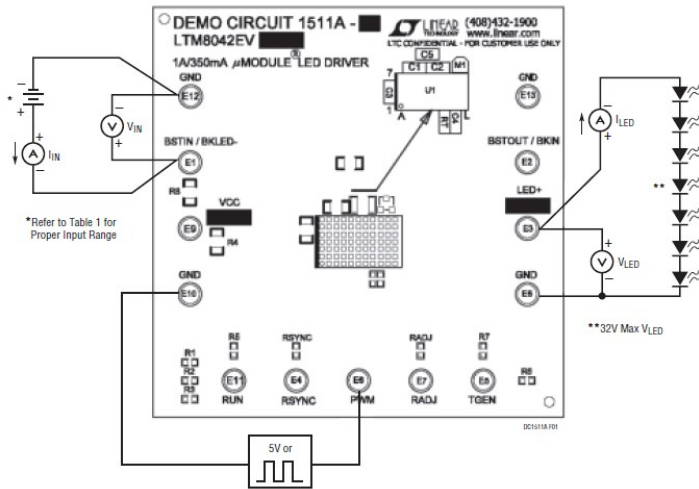

Figure 1. Proper Measurement Equipment Set-Up (Boost Topology)
Demonstration circuit 1511A is easy to set up to evaluate the performance of the LTM8042EV/LTM8042EV-1. Refer to Figure 1 for the proper measurement equipment set-up and follow the procedure below for a boost (step-up) topology.
1. Connect a string of LEDs with forward voltage 32V or less, but greater than the input voltage, to the LED+ (LED anode) and GND (LED cathode) terminals on the PCB, as shown in Figure 1.